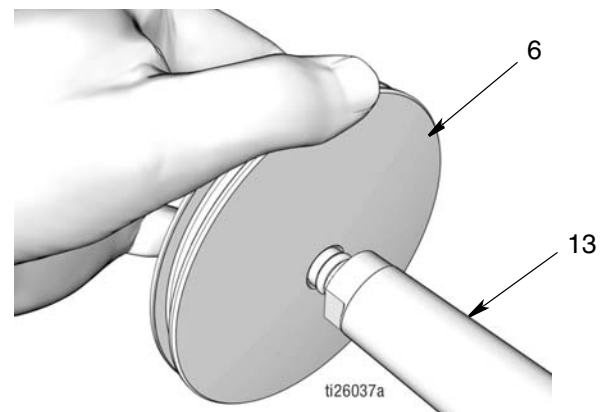

FIG. 50
- Push piston (6) over end of piston rod (13) until it is seated on the rod (FIG. 50).